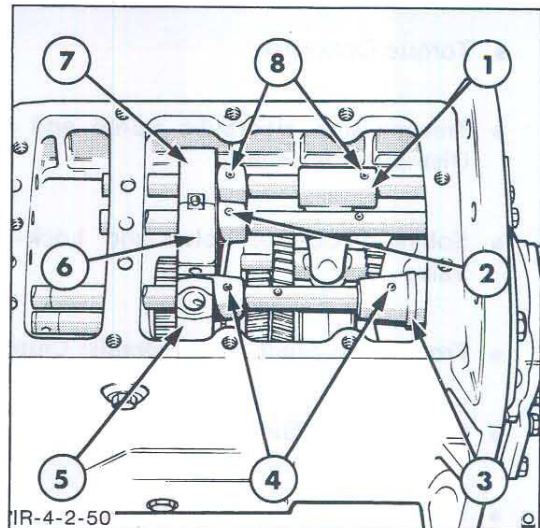

Figure 74
8. Insert the H/L gearshift rail into the transmission case from the rear end of the transmission. Slide the rail through the H/L gearshift fork then install the H/L gearshift gate onto the rail. Continue sliding the rail until it is in approximately the neutral position, Figure 74.